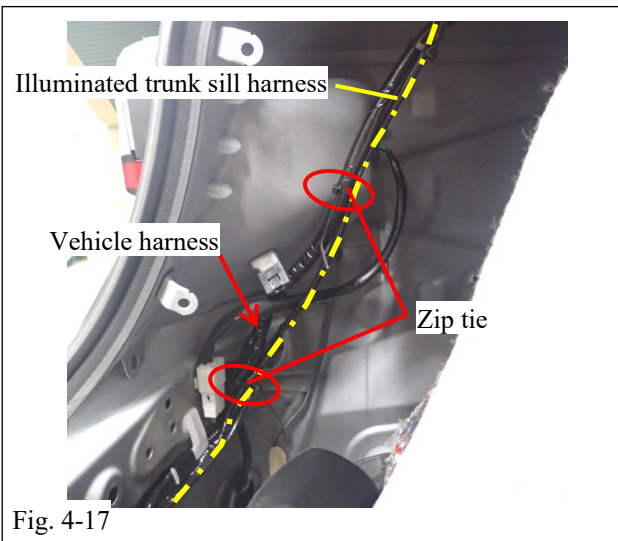

Fig. 4-17
(u) Using one (2) zip ties attach the illuminated trunk sill harness to the vehicle harness running down near the LH trunk opening (Fig. 4-17).